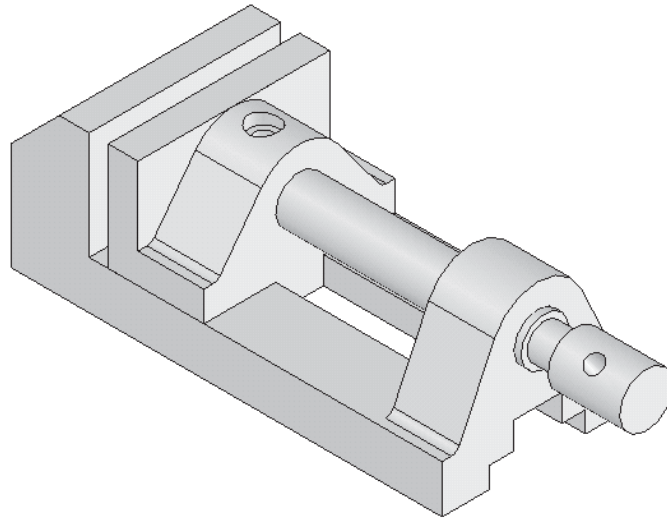

Figure 11-64 Assembly after applying the **Coincident** mate to the Jaw Screw
10. Choose the **Add/Finish Mate** button from the **Mate** pop-up toolbar. The assembly after adding the **Coincident** mate is displayed in Figure 11-64.